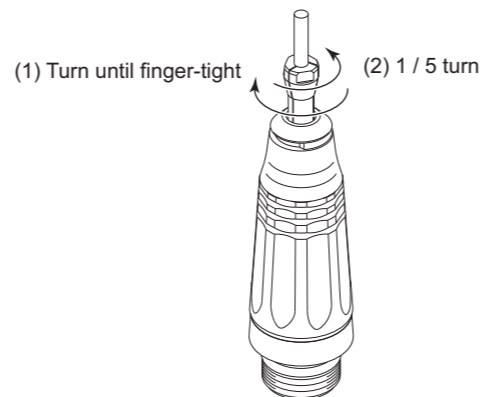

Fig. 7
③ Attachment and Adjustment of the collet
- (1) Turn the cutting tool / the dummy bur clockwise to stop with the ring opened.
- (2) Return it about $1/5 - 1/4$ to remove the cutting tool / the dummy bur smoothly (Fig. 7).